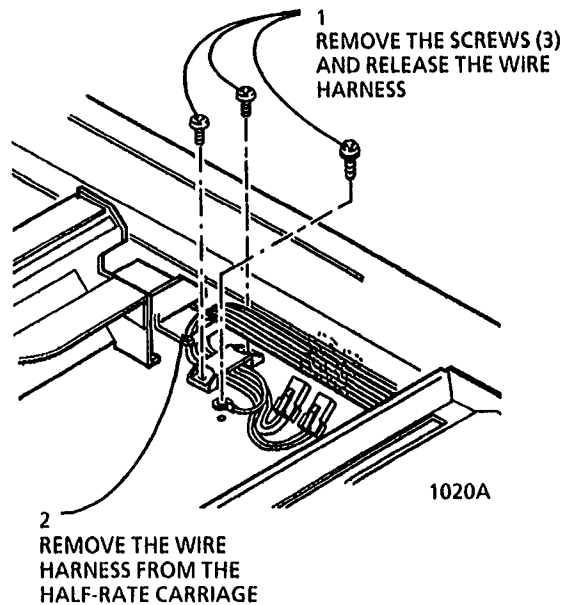

Figure 2. Relieving the wire harness
4. (Figure 2): Relieve the wire harness.